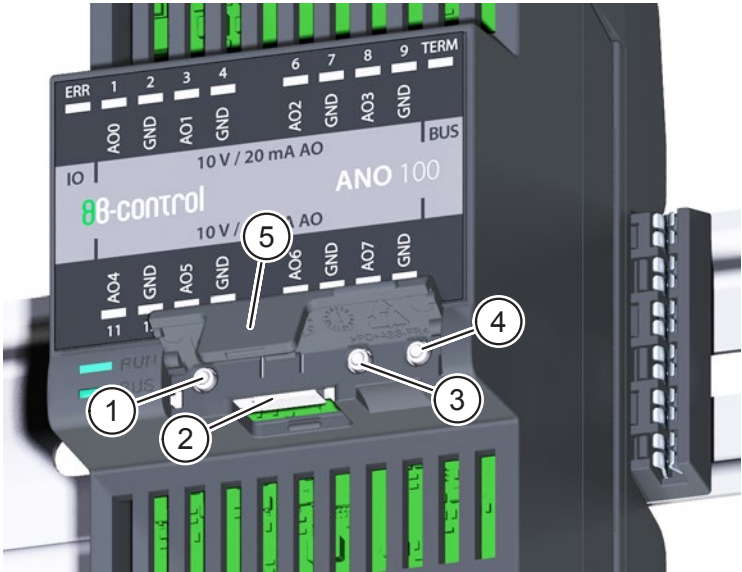

Fig. 3: Controls
There are three pushbuttons and a USB port beneath the service flap (item 5 in Fig. 3) on the ANO100 module.